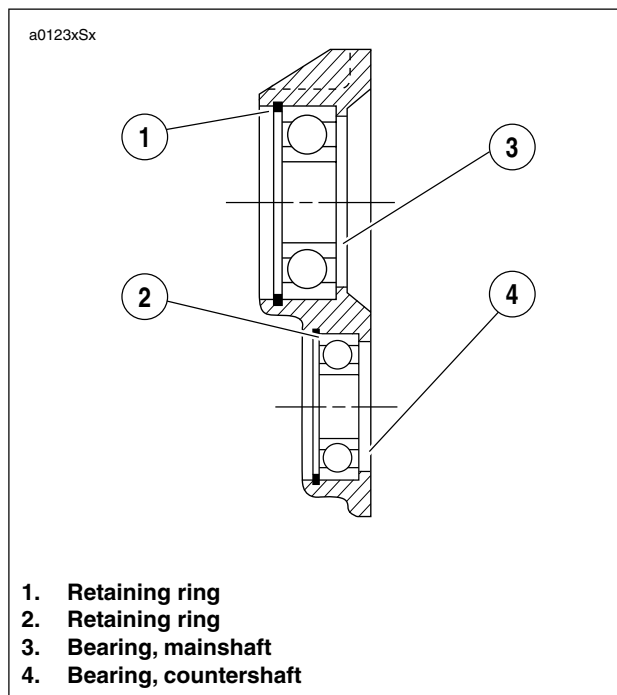

Figure 6-45. Ball Bearing Assembly
5. See Figure 6-45. If bearing replacement is required, remove retaining rings (1, 2). Press out bearings (3, 4) from the inside of the crankcase.